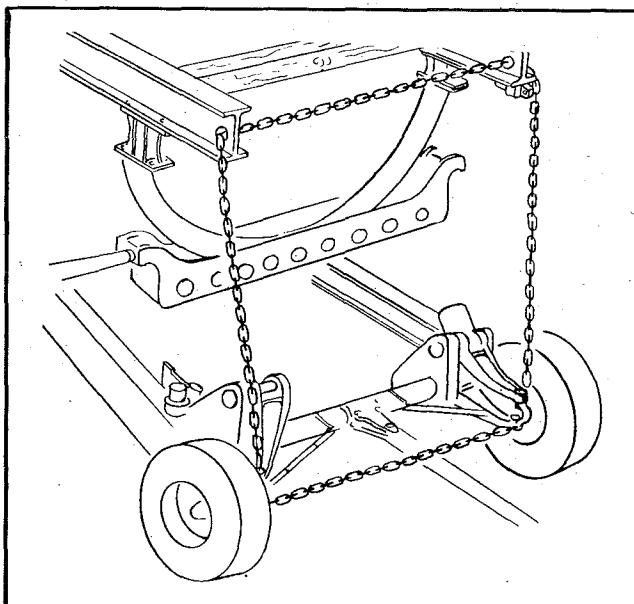

Figure 3-24. Lift Test
(See figures 3-24 and 3-25.)
a. LIFT TEST (See figure 3-24).